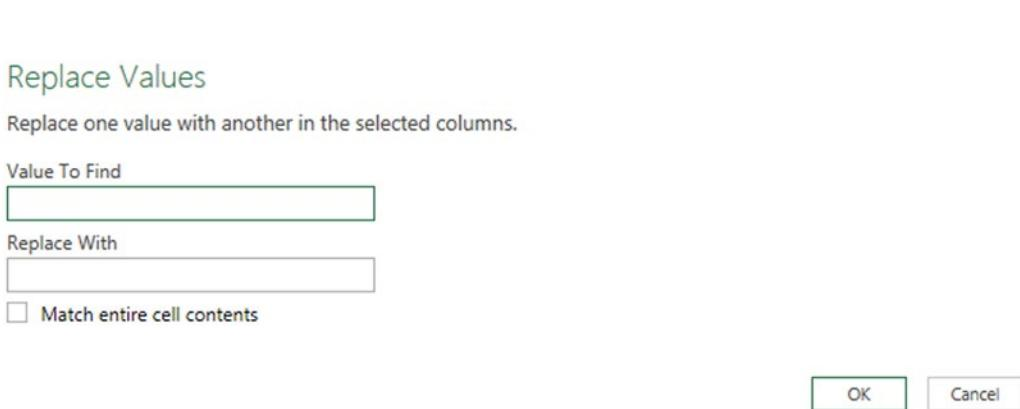

Figure 23-6. Replacing three spaces with a single space using the Replace dialog of Power Query
1. While keeping the Name column selected, go to the Transform tab and click Replace Values in the Any Column group. This opens the Replace Values dialog box shown in Figure 23-6.